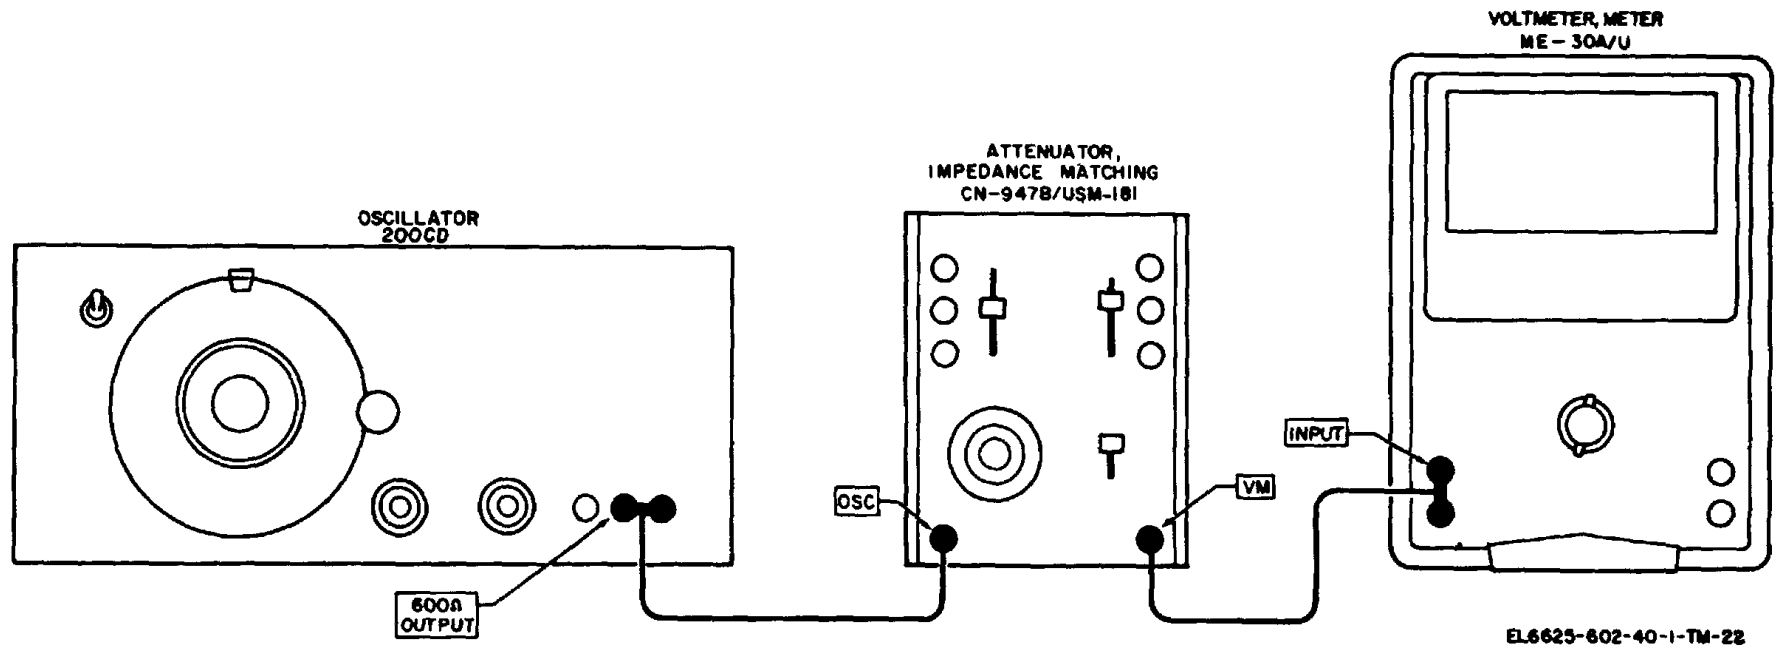

Figure 5-10. Attenuator, Impedance Matching CN-947B/USM-181 input-output isolation test.
- b. *Test Connections and Conditions.* Connect the equipment as shown in figure 5-10.